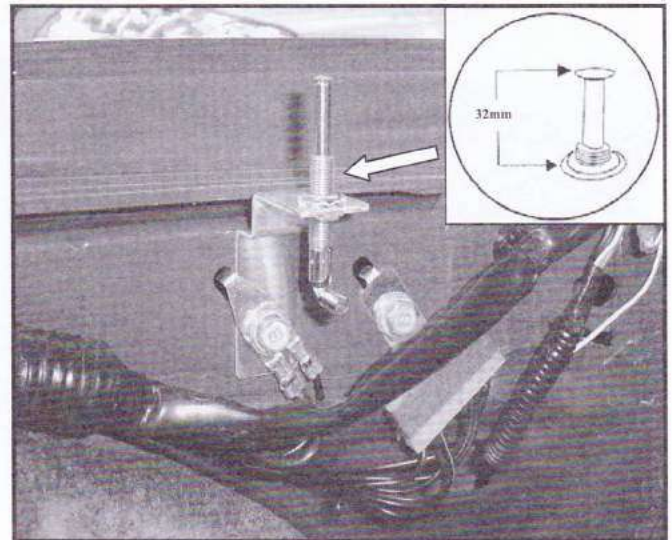

figure 12
2. Secure the bonnet switch bracket to the RHS guard using the vehicles earth strap bolt in the following order: pin switch bracket, earth strap, then bolt. (refer to figure 12)
3. Attach the bonnet pin switch to the bracket ensuring that the distance between the bracket to the top of the switch measures 32mm. (refer to figure 12)